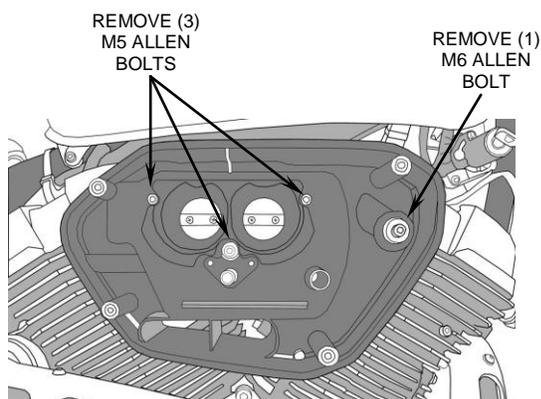

FIGURE 1
1. Remove the (4) bolts that hold on the stock air cleaner cover. Remove the cover and filter from air box.
2. Remove the air box by loosening the (3) M5 allen bolts around the air inlet and (1) M6 on the right side of the housing, Figure 1. Disconnect the hose from the backside of the air box and remove it, the screws will not be reused.